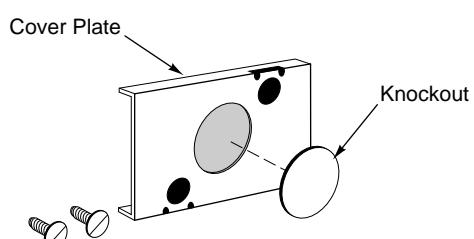

Figure-10 Cover Plate Knockout Removal.
1. Remove the knockout from the cover plate supplied with the actuator. Refer to Figure-10 .
- Remove the knockout from the cover plate supplied with the actuator. Refer to Figure-10 .